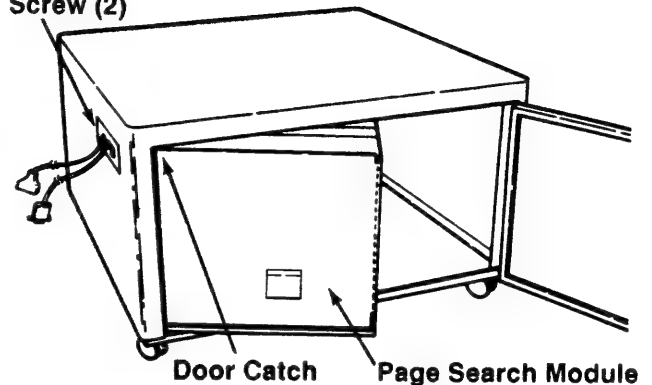

Figure 2-3.1D
7. Feed the Cable Harnesses through the port on the left side of the Workstation (Figure 2-3.1D).
8. Move the front end of the Page Search Module all the way to the left first placing the Left Frame behind the Door Catch (Figure 2-3.1D) then push the rear to the left.
9. Loosely install two 8-32 x 1/2 in. Pan Head Taptite Screws (Item 2) through the left side of the Workstation into the Page Search Module (Figure 2-3.1D).